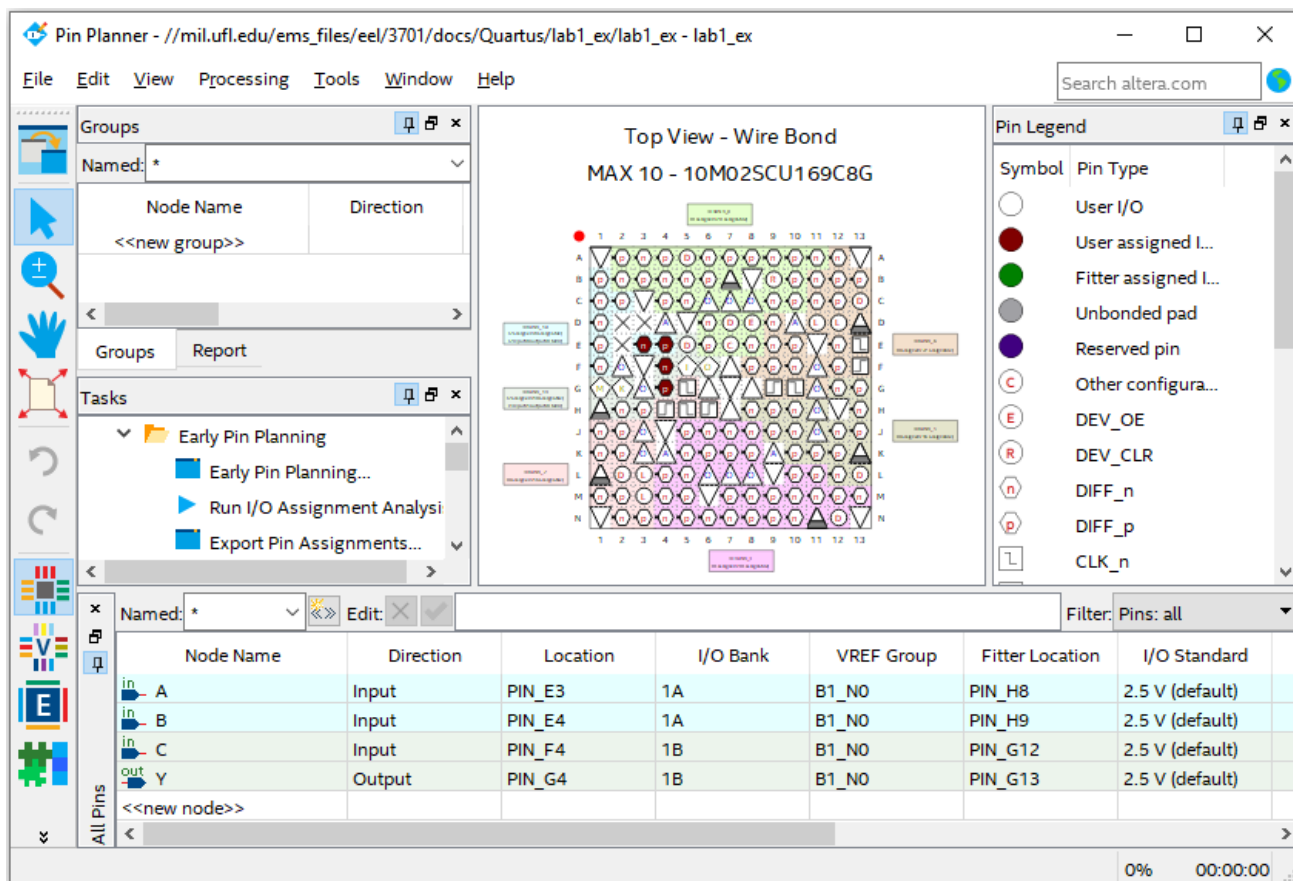

Figure 16: Pin Planner
- To program a device, you need to give you device pins. Select "Assignments" and "Pin Planner". A window similar to Figure 16 will appear. Under location, type in a pin number for A, B, C, and Y (in this case type in E3, E4, F4, and G4, respectively). Exit out of pin planner.